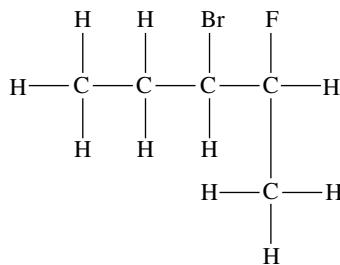

FIGURE 10.4.8 Molecule structure.
- 1 Give the systematic name for the molecule in Figure 10.4.8.